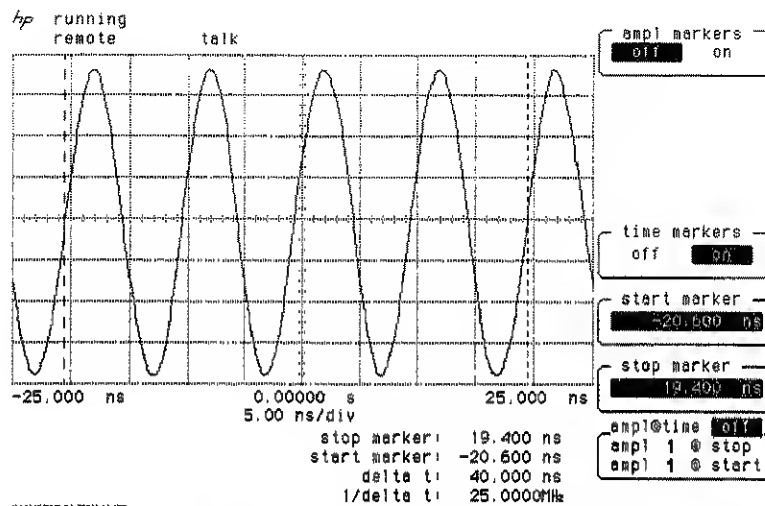

Figure 4-12. Mid-Screen Crossover
4. Set the start marker (large dashed vertical line) to the mid-screen crossover point on the left side of the displayed signal as shown in Figure 4-12. The knob changes the position of the marker.
6. Set the stop marker (small dashed vertical line) to the mid-screen crossover point on the right side of the displayed signal as shown in Figure 4-12.